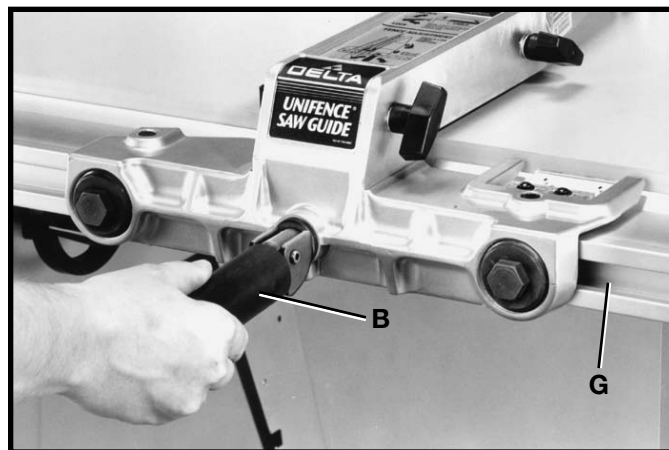

Fig. 72
3. Turn handle (B) Fig. 72, to the right indent position as shown. This will prevent fence clamp from sliding out of the channel (G).